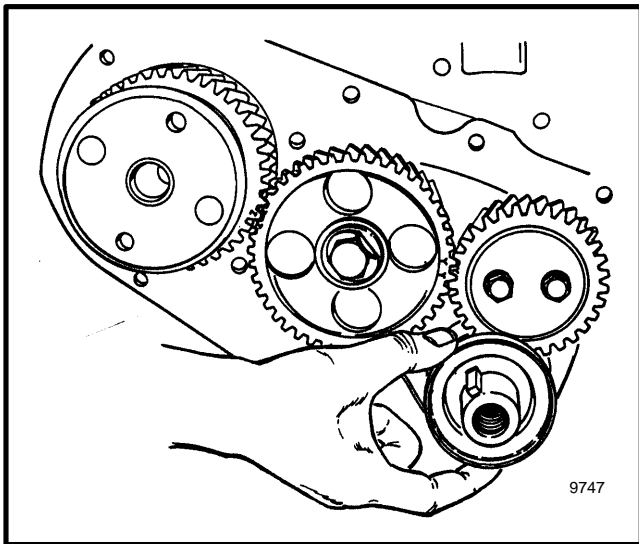

FIGURE 28. OIL DEFLECTOR RING
4. Remove the oil deflector ring from the crankshaft gear. See FIGURE 28.
- d. See FIGURE 28. Install the oil deflector ring at the front of the crankshaft gear. The flange must be installed next to the crankcase gear.